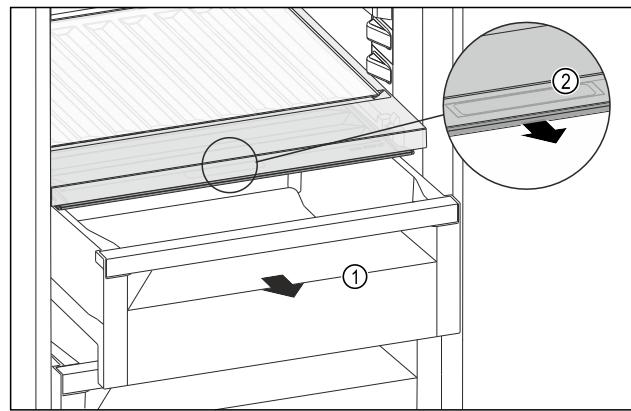

Fig. 149
- Pull out the drawer Fig. 149 (1).
- Grasp the recessed grip Fig. 149 (2) on the compartment lid and pull the compartment lid forwards at the same time.